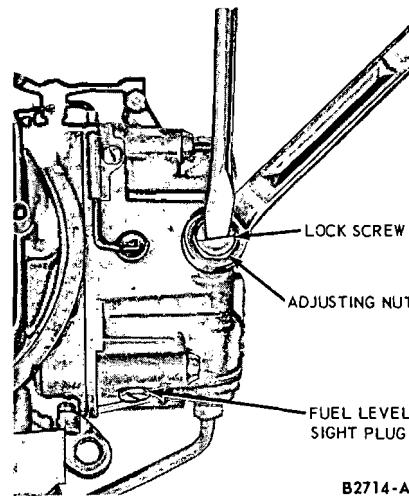

FIG. 23—Fuel Level Float Adjustment (Wet) Holley 4-V
1. With the engine stopped, remove the fuel level sight plug and gasket and check the fuel level (Fig. 23). The fuel level within the bowl should be at the lower edge of the sight plug opening $\pm 1/16$ inch.
1. With the engine stopped, loosen the lock screw on top of the fuel bowl just enough to allow rotation of the adjusting nut underneath (Fig. 23). **Do not loosen the lock screw or attempt to adjust the fuel level with the sight plug removed and the engine running because the pressure in the line will spray fuel out and present a fire hazard.**